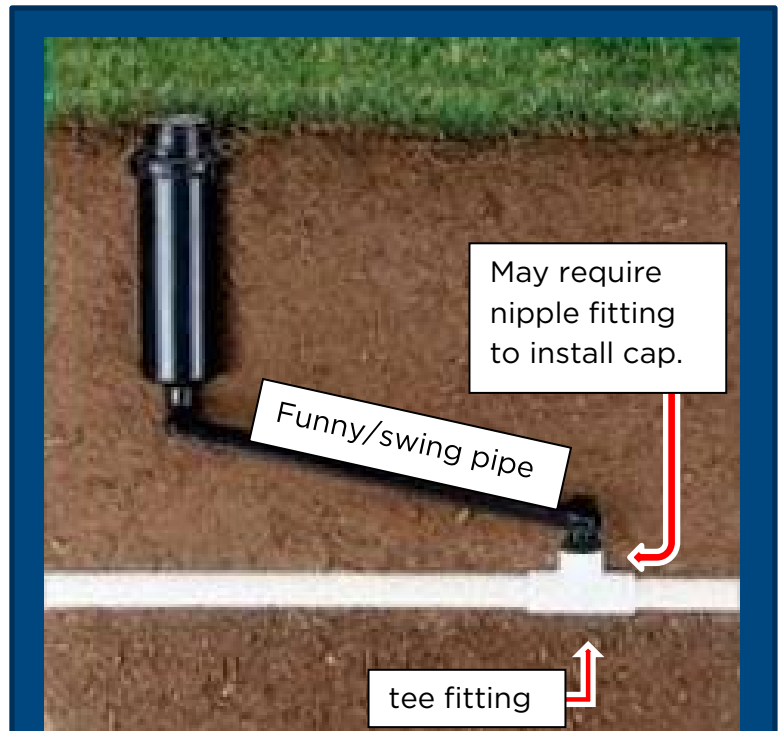

Figure 3: (CSE Landscape Architect)
- Dig up and remove the head and funny/swing pipe kit, if present (Figure 3).